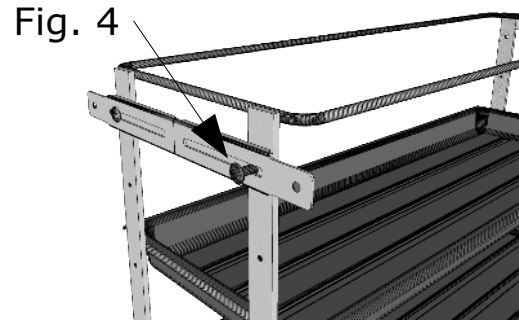

Fig. 4
5. Attach door mounting brackets to upper frame as shown in Fig. 4 using (4) 10-24 carriage bolts, washers and nuts. Do not fully tighten the door mount brackets as these will need to be adjusted when attaching the cabinet door to unit.